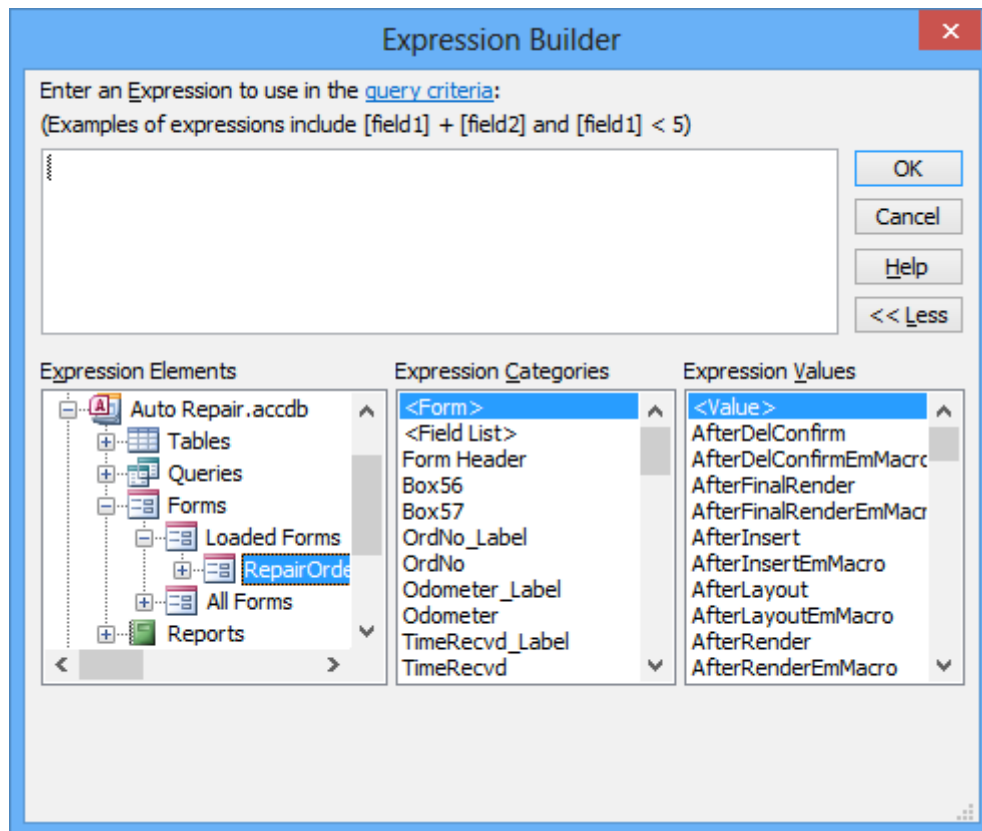

Figure 20: Expression Builder with *RepairOrder2* Fields Selected
- Expand the Forms folder in the left pane until you have opened the fields of the *RepairOrder2* form, as depicted in Figure 20. You need to expand three folders in the left pane to see the fields.
- As before, you need to select the *CustNo* form field. Follow the directions in Figures 20 and 21. When finished, close the Expression Builder window.